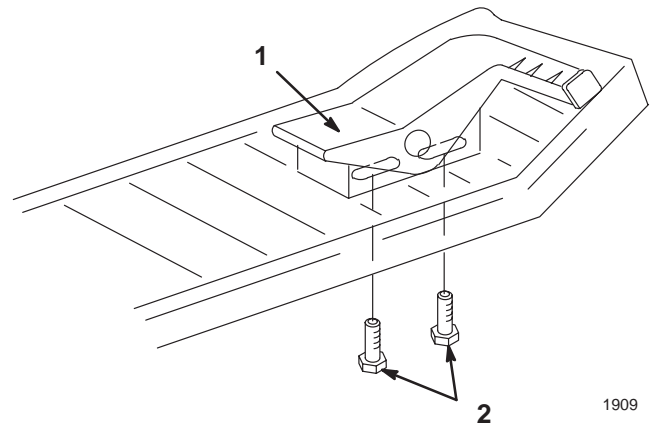

Figure 5
1. Loosen the screws below the right footrest. Slide the pedal forward for faster reverse speed or backward for faster forward speed (Fig. 5).